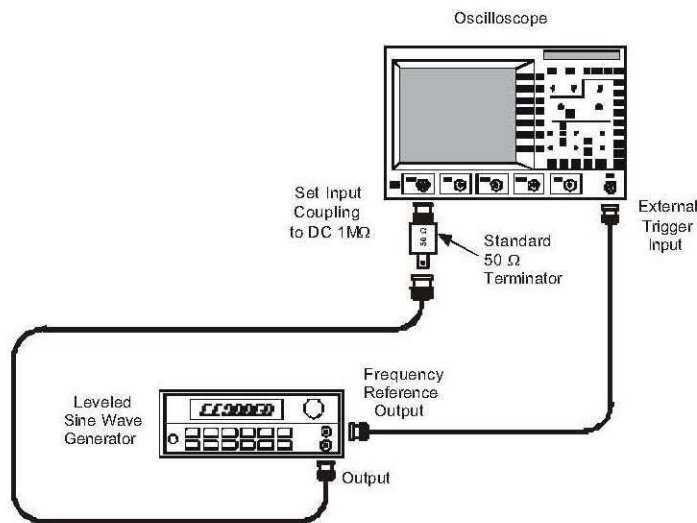

Figure 18, HF CMRR Check Setup
- i. Disconnect the **AMPLIFIER OUTPUT** cable from the oscilloscope's channel 1 and connect the terminated end of the sine wave generator output cable to the channel 1 input of the oscilloscope. Refer to Figure 18.